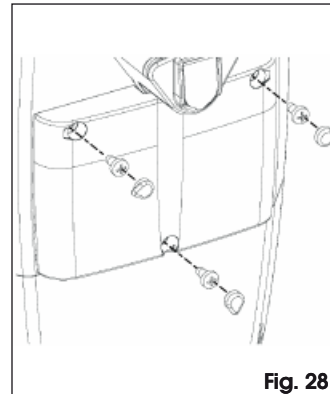

Fig. 28
- When you have finished programming the control unit, and controlled correct operation of the automated system, close the central compartment with the three supplied screws, and position the covering plugs as shown in Fig. 28.